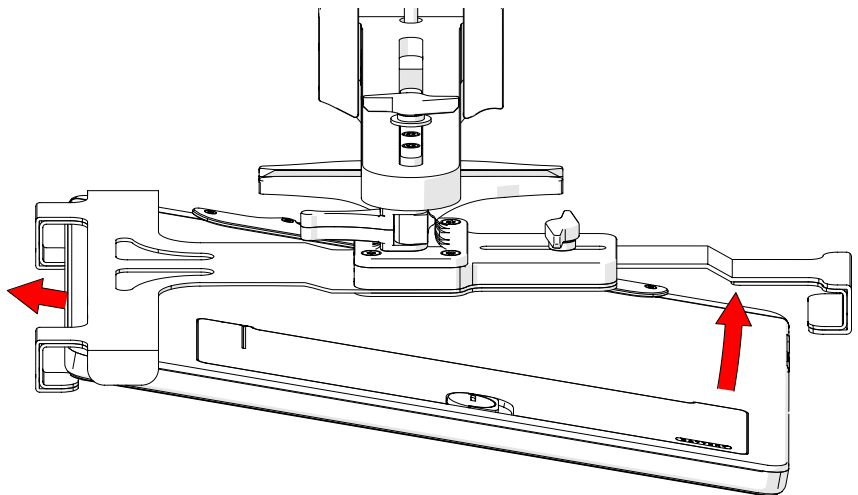

Fig. 30 - Place detector within the tabs of the detector holder
2. Position the detector within the tabs of the detector bracket (*Fig. 30*).